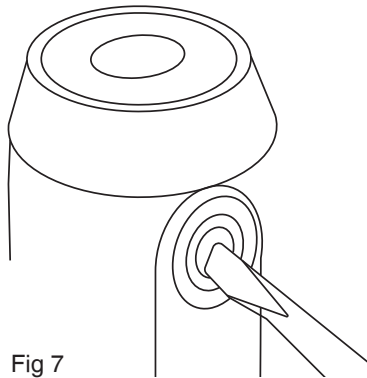

Fig 7
3. Use a screwdriver to remove the brush holder caps. Take out the worn carbon brushes, insert the new ones and secure the brush holder caps (Fig 7)